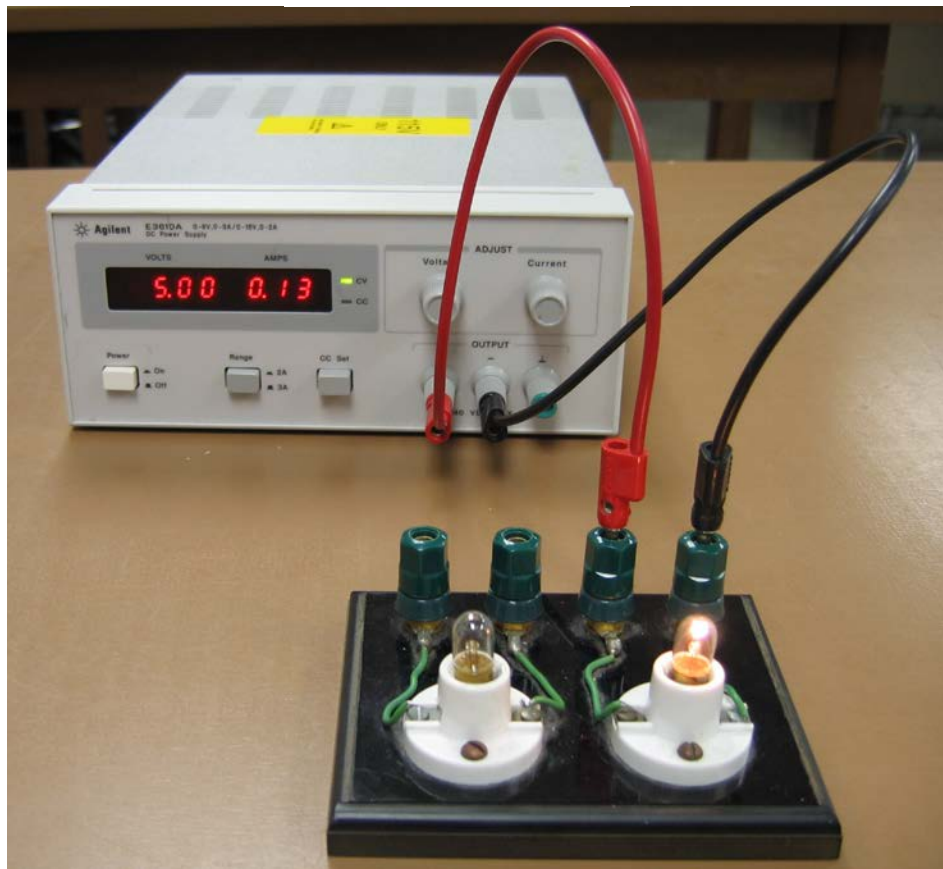

Figure 11-8. One light bulb connected to the power supply. You will have to determine for yourself how to connect two bulbs in parallel or in series.
25. Adjust the power supply to 5 Volts. Connect the two lights so that they are in parallel, and connect them to the power supply (not the batteries!) See Figure 11-8. Increase the current limit (the knob marked "current" on the front panel of the supply; it sets the maximum current the supply can output) until the green light marked CC is extinguished and the light marked CV is on. Disconnect a wire from one of the bulbs. What happens?